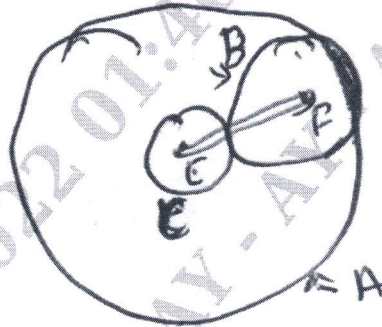

Fig. Q4(a)
- 4 a. An epicyclic gear consists of three gears A, B and C as shown in Fig.Q4(a). The gear has 72 internal teeth and gear C has 32 external teeth. The gear B meshes with both A and C and is carried on an arm EF which rotates about the centre of A at 18 rpm. If the gear A is fixed, determine the speed of gear B and C. (10 Marks)